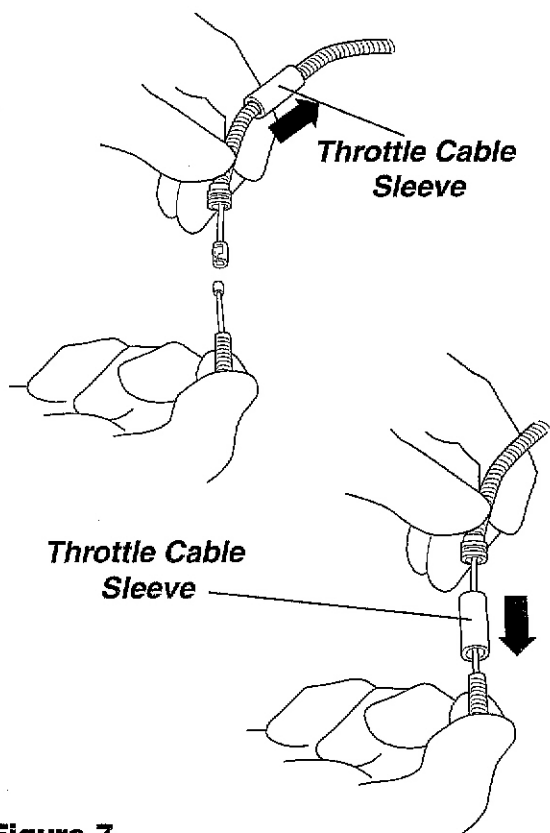

Figure 7
3. Connect the powerhead and the throttle cable ends. See Figure 7.